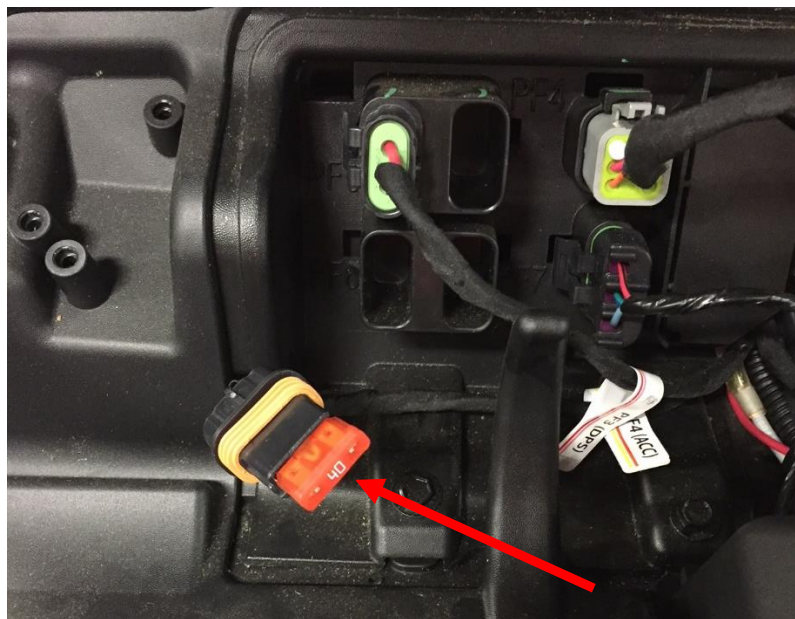
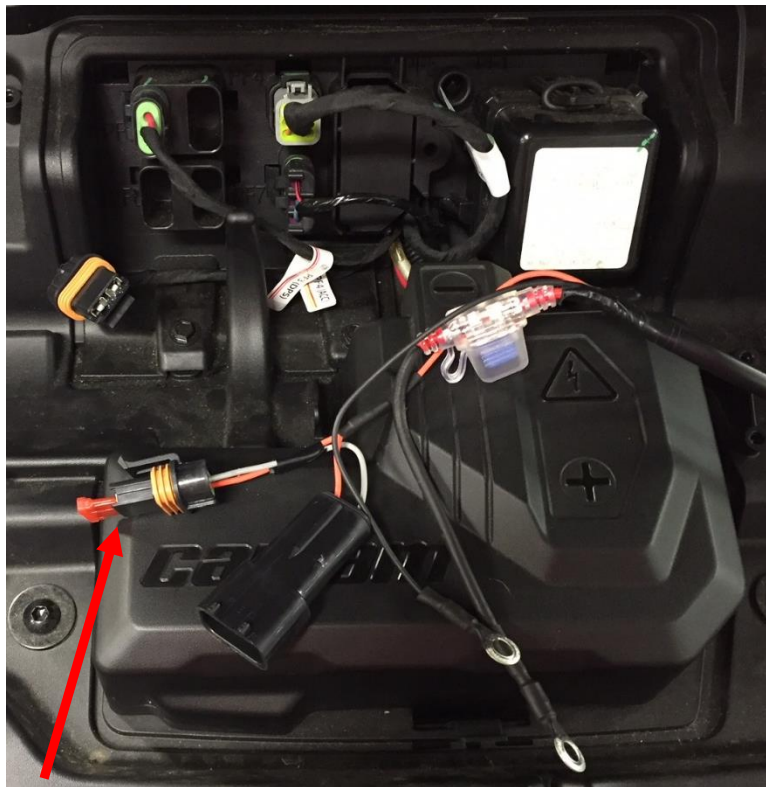

Figure 15: Factory fuse and fuse holder.
Figure 16: Place the fuse into the chassis harness connector.
11. Remove the 40 amp fuse from the factory fuse holder and place into the matching connector on the chassis harness. See Figure 15 and Figure 16.